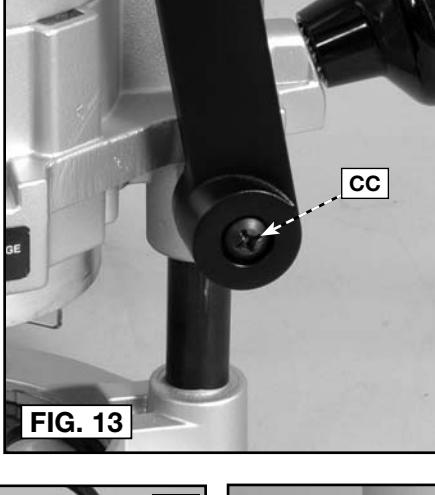

FIG. 13
1. While holding the lever in the upright position, remove the retaining screw (CC) Fig. 13. Continue to hold the lever through the remaining steps.